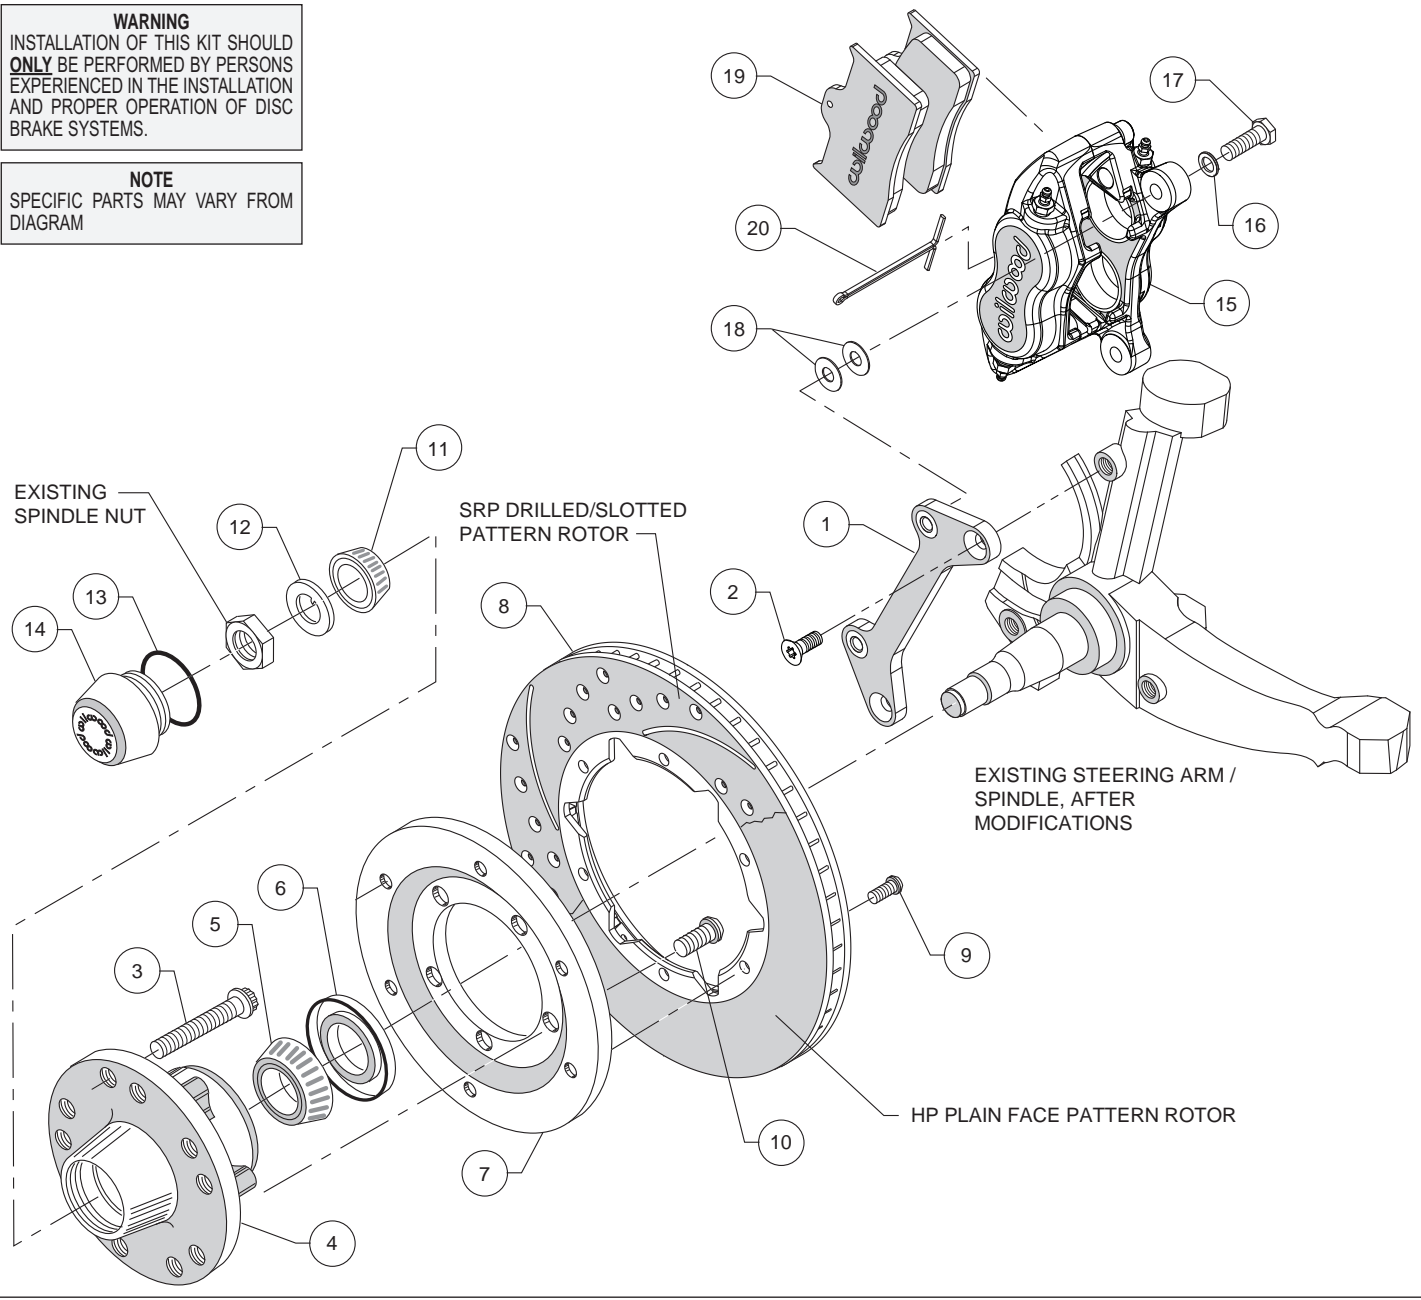
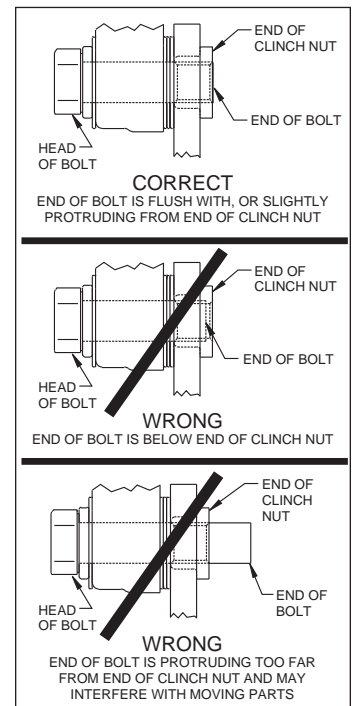

Figure 2. Typical Installation Configuration
Figure 4. Clinch Nut Engagement Diagram
Assembly Instructions (numbers in parenthesis refer to the parts list, on the preceding page and Figure 2 above): **CAUTION:** All mounting bolts must fully engage clinch nuts. Be sure to check that all bolts are either flush or protruding through flanged side of clinch nut after shimming, Figure 4.
- Align caliper mounting bracket (1) with the corresponding holes, to the face of the spindle. Attach using bolts (2) as shown in Figure 2 and Photo 1. Temporarily tighten the mounting bolts. Ensure that the flanged heads of the clinch nuts in the bracket are facing outboard, Photo 1. **NOTE:** The bracket must fit squarely against the mounting points on the spindle. Inspect for interference from casting irregularities, machining ridges, burrs, etc. Remove bolts one at a time, apply red *Loctite*® 271 to threads and torque to 40 ft-lbs.
- Orient the rotor (8) and the rotor adapter (7) as shown in Figure 2 and Photo 4. Attach the rotor to the adapter using bolts (9). Using an alternating sequence, apply red *Loctite*® 271 to the threads, and torque to 25 ft-lb.
- Mount the adapter/rotor assembly (7/8) to the hub (4) using bolts (10), as shown in Figure 2 and Photo 5. Using an alternating sequence, apply red *Loctite*® 271 to the threads, and torque to 45 ft-lb.
- NOTE:** Please reference the caution statement at the beginning of the assembly instructions. Mount the caliper (15) onto the caliper mounting bracket (1) using bolts (17) and washers (16), as shown in Figure 2. Initially place two .035" thick shims (18) on each bolt between the caliper and the bracket, Photo 8. Temporarily tighten the mounting bolts and view the rotor (8) through the top opening of the caliper. The rotor should be centered in the caliper, Photo 9. If not, adjust by adding or subtracting shims between the bracket and the caliper. Always use the same amount of shims on each of the two mounting bolts. **NOTE:** The end of each bolt must be flush with or slightly protruding from the head of the clinch nut, as shown in Figure 4. If necessary place spare shims between washer (16) and caliper mounting ear to achieve the proper clinch nut engagement. Once the caliper alignment and clinch nut engagement are correct, remove the bolts one at a time, apply red *Loctite*® 271 to bolt threads, and torque to 40 ft-lb.